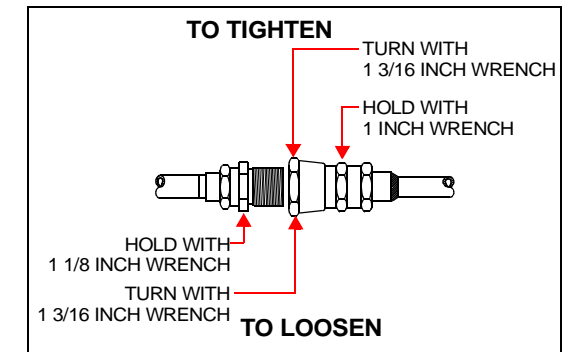

Figure 5: Helium Flex Line Connections
- 3) Connect **helium return** line. See Figure 1C and Figure 5.
- 4) Connect **helium supply** line. See Figure 1H and Figure 5.